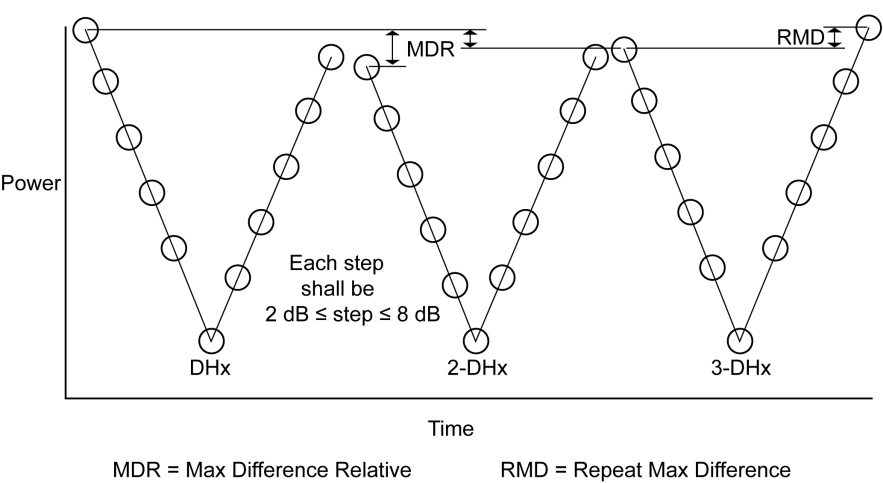

Figure 7-9. Enhanced Power Control Test
- Rpt Mx diff:** Displays the maximum power level at the start of a given modulation measurement cycle relative to the maximum power at the end of the cycle. Shown as "RMD" in figure 7-9.
- Mx diff relative:** Displays the maximum difference (at the same step position) in the GFSK header power for DHx to 2-DHx, and DHx to 3-DHx packets. Shown as "MDR" in figure 7-9.